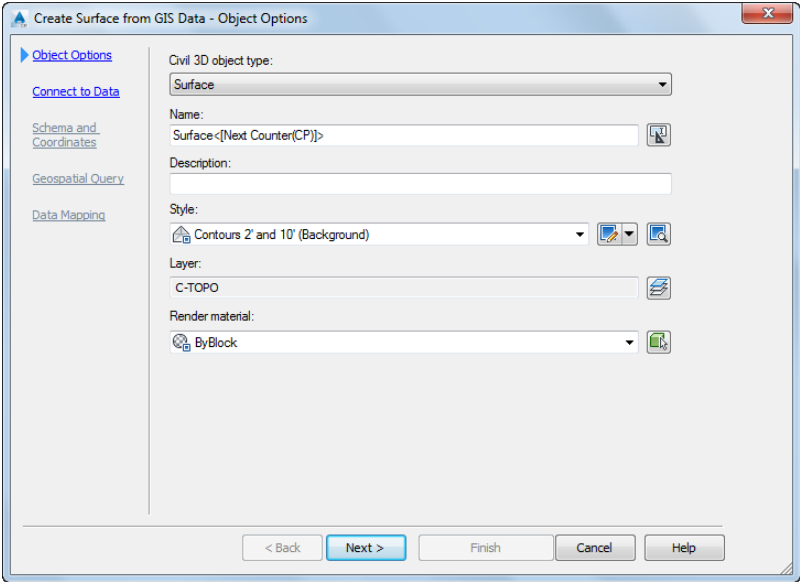

Figure 3-75 The Object Options page of the Create Surface from GIS Data wizard
1. Choose the **Create Surface from GIS Data** tool from **Home > Create Ground Data > Surfaces** drop-down; the **Object Options** page of the **Create Surface from GIS Data** wizard is displayed, as shown in Figure 3-75.